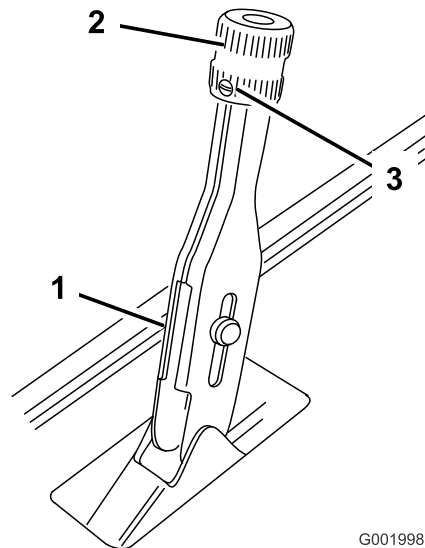

Figure 62
1. Loosen the set screw securing the knob to the parking brake lever (Figure 62).